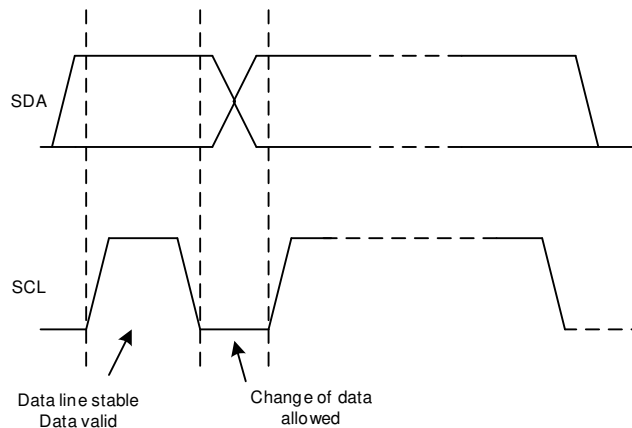

Figure 8-6. Bit Transfer on the I²C Bus
- The controller then generates the SCL pulses, and transmits the 7-bit address and the read/write direction bit (R/W) on the SDA line. During all transmissions, the controller makes sure that data are valid. Figure 8-6 shows that a valid data condition requires the SDA line to be stable during the entire high period of the clock pulse. All devices recognize the address sent by the controller and compare the address to the internal fixed addresses. Only the target device with a matching address generates an acknowledge by pulling the SDA line low during the entire high period of the ninth SCL cycle; see also Figure 8-4 by pulling the SDA line low during the entire high period of the ninth SCL cycle. Upon detecting this acknowledge, the controller knows the communication link with a target has been established.